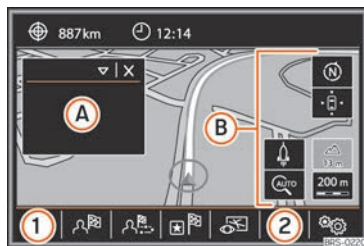

Fig. 210 Navigation main menu
- View** To modify or activate or deactivate the split screen » Fig. 210 **A** » page 219.